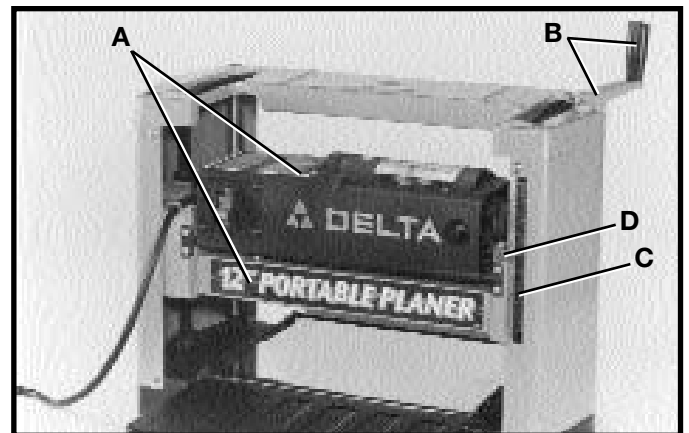

Fig. 15
The head assembly (A) Fig. 15, contains the cutterhead feed rolls, chip deflector and motor. Raising and lowering the head assembly controls the depth-of-cut on your planer. To raise or lower the head assembly, rotate the raising and lowering handle (B). **NOTE:** One revolution of the handle will move the cutterhead up or down approximately  $5/64$  . An English/metric scale (C) and pointer (D) is located on the side of the planer for ease in setting the height of the cutterhead.
A dual English/Metric scale and pointer, located at the right front of the machine, indicates the thickness of the workpiece. **NOTE:** One revolution of the raising and lowering handle (B) Fig. 15, will move the cutterhead up or down  $5/64$  .
2. Lower the head assembly by turning handle (B) Fig. 15.